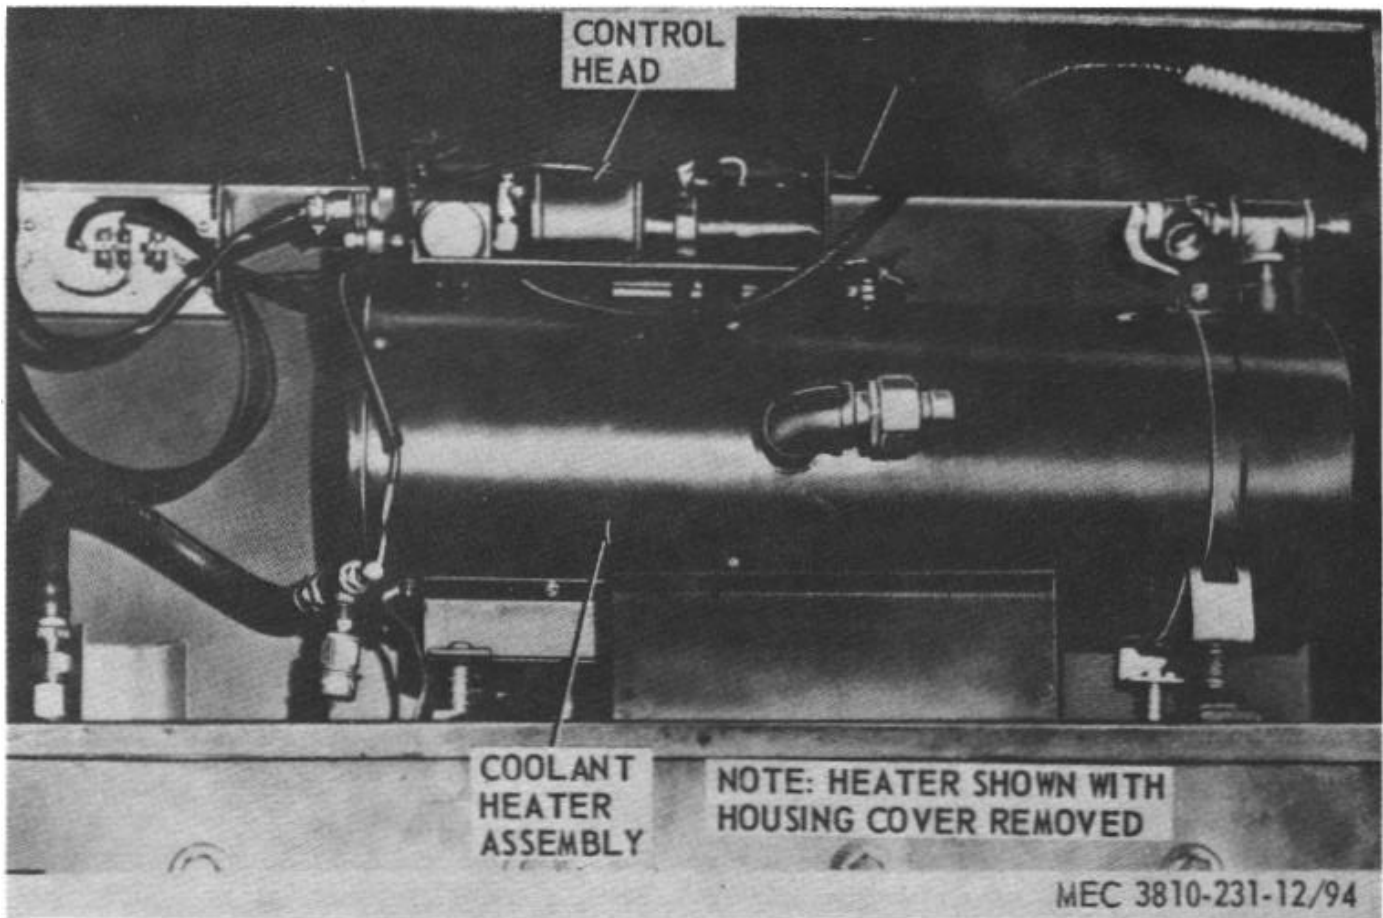

Figure 94. Engine coolant heater.
a. The engine coolant heater is located in a housing on left side of crane upper section (fig. 94). This heater maintains proper operating temperature of engine coolant and lubricating oil in engine oil pan. A pump circulates a continuous flow of heated coolant throughout system, including a tubular coil inserted in engine oil pan.